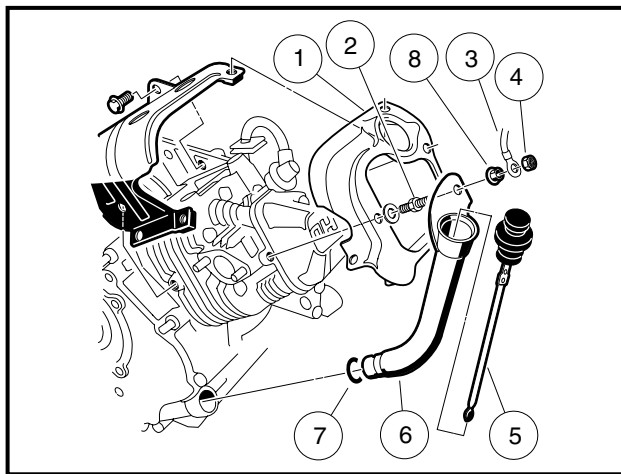

Figure 2-37 Oil Filler Tube and Ground Wire
2. Install lower, upper, and head shrouds (1) along with two-ended bolt (2) (**Figure 2-37, Page 2-20**).
To prevent leaks, apply a light coat of clean engine oil to the O-ring seal (7) before installation. Care should be taken during installation to avoid cutting or nicking the O-ring seal (**Figure 2-37, Page 2-20**).
3. Install oil filler tube (6) and O-Ring (7) into the large hole in the crankcase cover. Install the upper end of the oil filler tube (6) onto the two-ended bolt (2). Install flange nut (8) and tighten to 50 in-lb (5.7 N·m).
4. Connect the ground wire (3) to the two-ended bolt and install and tighten the locknut (4) to 50 in-lb (5.7 N·m). Insert the dip stick (5) (**Figure 2-37, Page 2-20**).